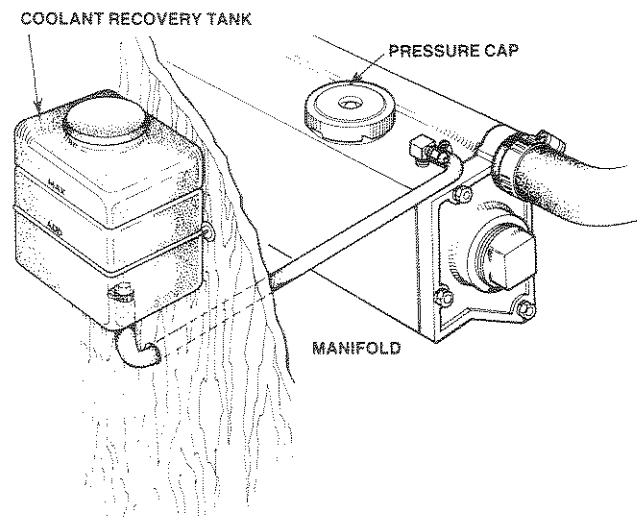

Figure 3. Coolant Recovery System
3. Your engine is supplied with a coolant recovery system (See figure 3) to which the following instructions apply: